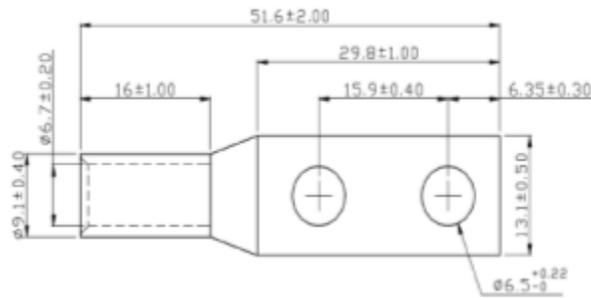

Figure 3-31. Example of Compliant DC Cable Lug
- Cable lug specs (refer to Figure 3-31 for example of compliant lug) :